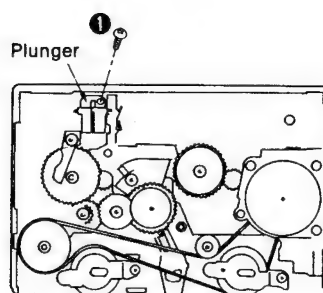

Fig. 7
2. Remove one screw (①). (See Fig. 7.)